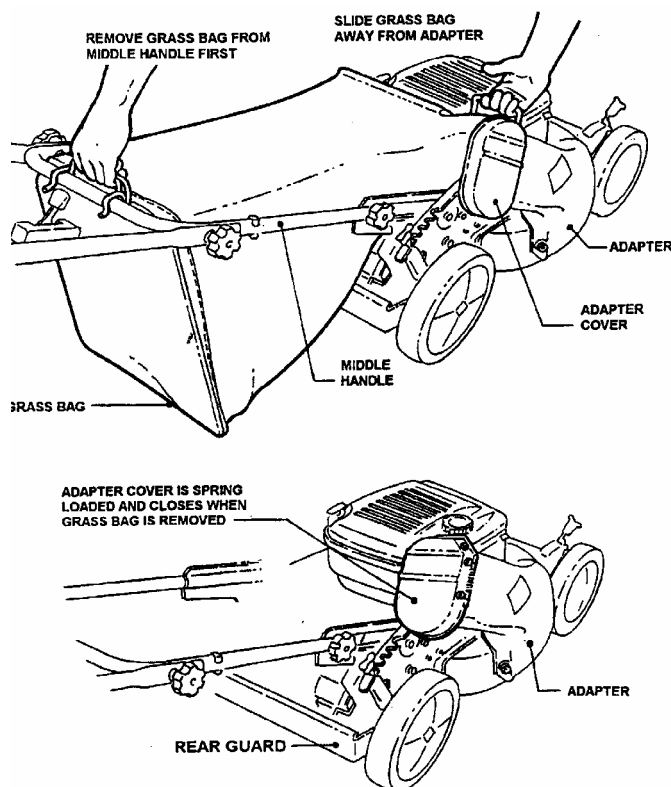

FIGURE 2.10
**STEP 2:** Install grass catcher by sliding connector over flange of adapter. Attach grass bag hooks over middle handle cross bar. See Figure 2.10.